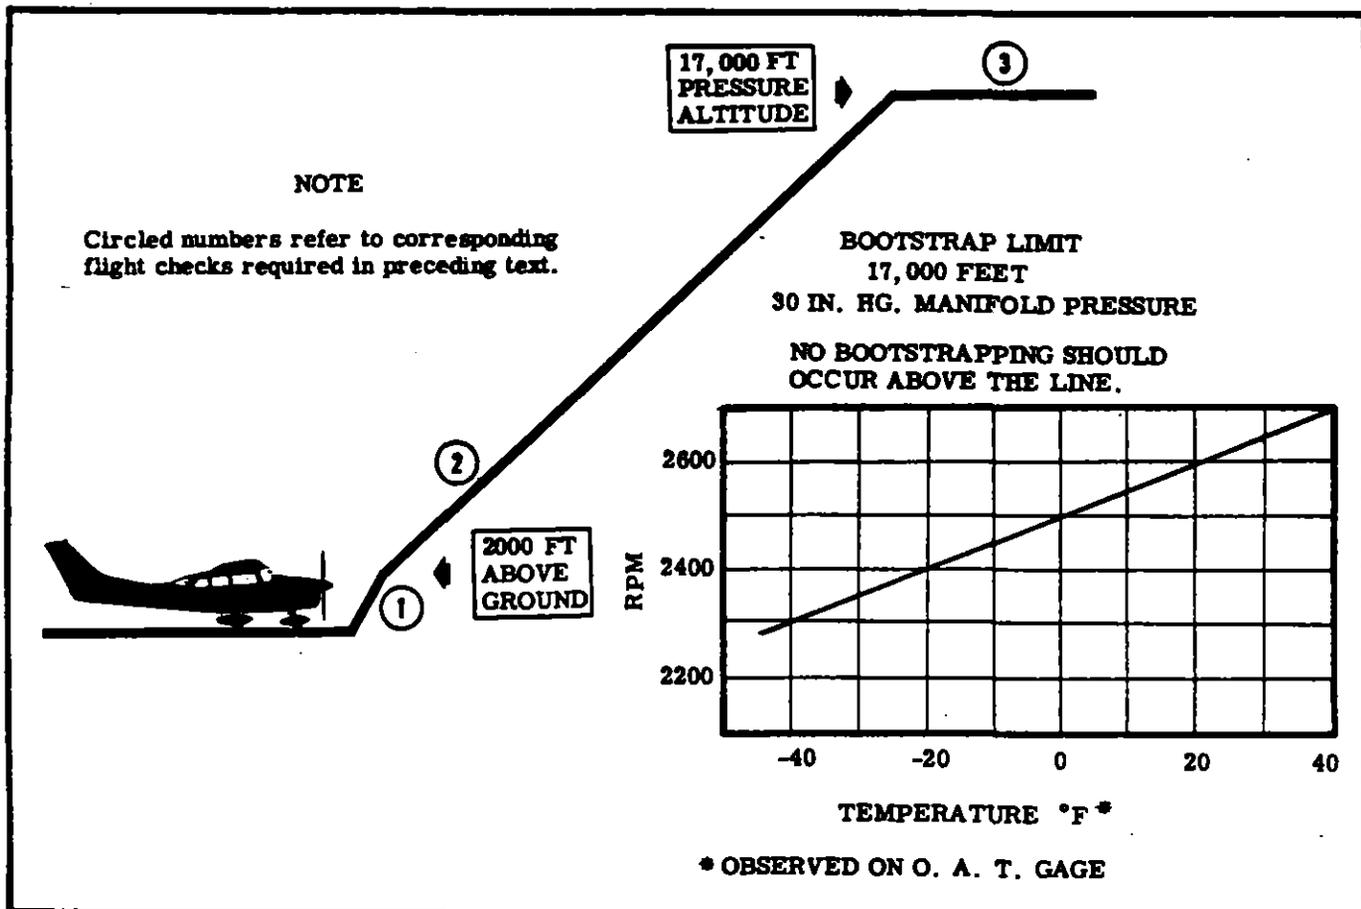

Figure 12A-6. Operational Flight Check
- (2) Note the outside air temperature and RPM as the manifold pressure starts to drop. Enter the chart (fig. 12A-6) with these numbers and verify no bootstrapping occurs above the line. If bootstrapping does occur above the line, refer to the trouble shooting chart in paragraph 12A-112.
- (3) After noting temperature and RPM, increase engine speed 50 RPM to stabilize manifold pressure, with the waste gate modulating exhaust flow to control compressor output.
12A-115. ABSOLUTE CONTROLLER ADJUSTMENTS. (See figure 12A-7.)